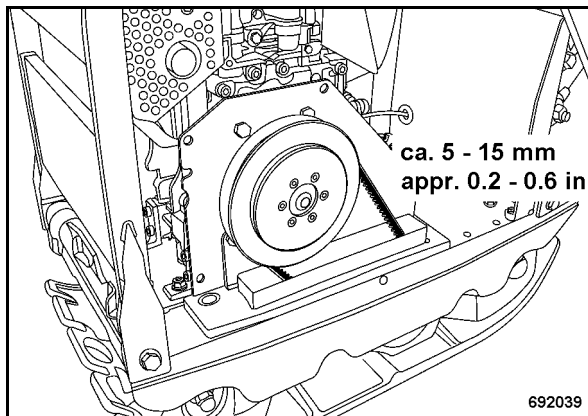
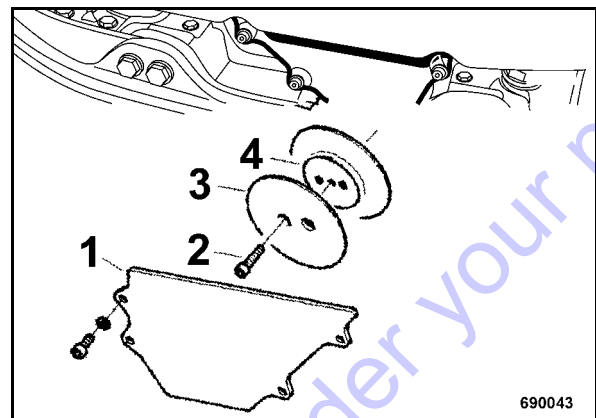

Fig. 49
Fig. 50
- Remove the V-belt guard (Fig. 49).
- Disassemble the safety cover (1) (Fig. 50).
- Loosen screw (2).
- Remove the front disc (3) from the centrifugal clutch.
- Attach the front disc (3).
- Tighten the screws (2).
- Refit the safety cover (1).
- Assemble the top V-belt guard (Fig. 49).